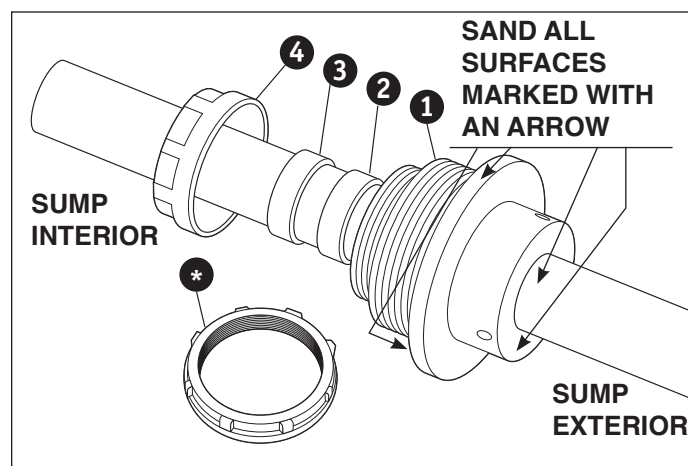
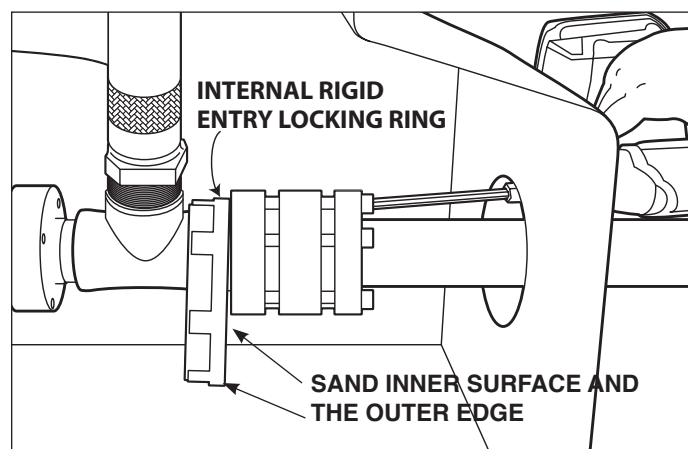

Figure 22-1
Figure 22-2
Assemble the rigid entry components on the DoubleTrac® Pipe entering the sump in the following order (Figure 22-1).
the inside of the DoubleTrac® entry fitting and all the surfaces of the DoubleTrac entry fitting marked with an arrow (Figure 22-1 and Figure 22-2).
5. Assemble rigid entry fitting components on DoubleTrac® pipe (see Figure 22-1).
6. Assemble DoubleTrac® fitting according to Section 7. Ensure the internal locking ring is placed on the ancillary equipment (see Figure 22-2) prior to attaching the DoubleTrac fitting to equipment.